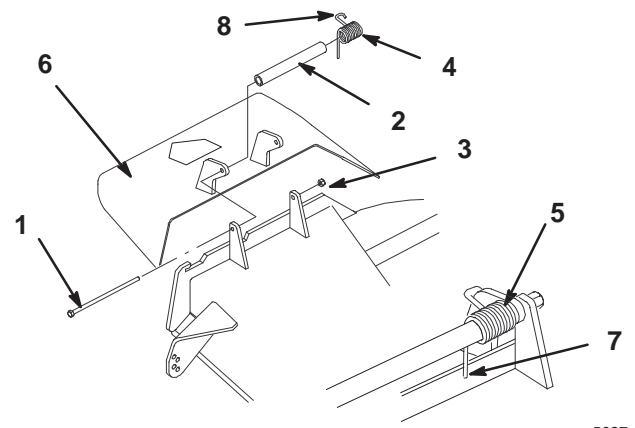

Figure 60
1. Remove the locknut, bolt, spring and spacer holding the deflector to the pivot brackets (Fig. 60). Remove damaged or worn grass deflector.
- Note:** Make sure the straight end of spring is installed behind deck edge before installing the bolt as shown in figure 60.
3. Install bolt and nut. Place hook end of spring around grass deflector (Fig. 60).